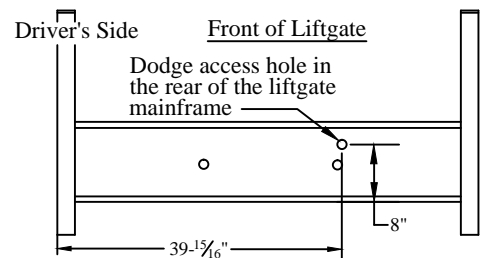

Figure 16: Spare tire access.
2. **Remove** the black plastic plug from the mainframe in the location shown (Figure 16).